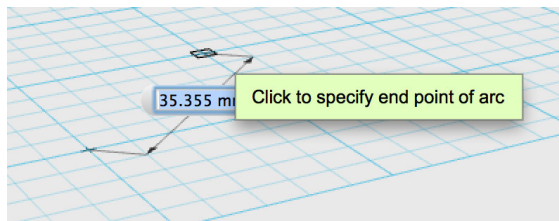

Figure 4-70 The end of the arc of three points
4. Click again where you want your arc to end (Figure 4-70).